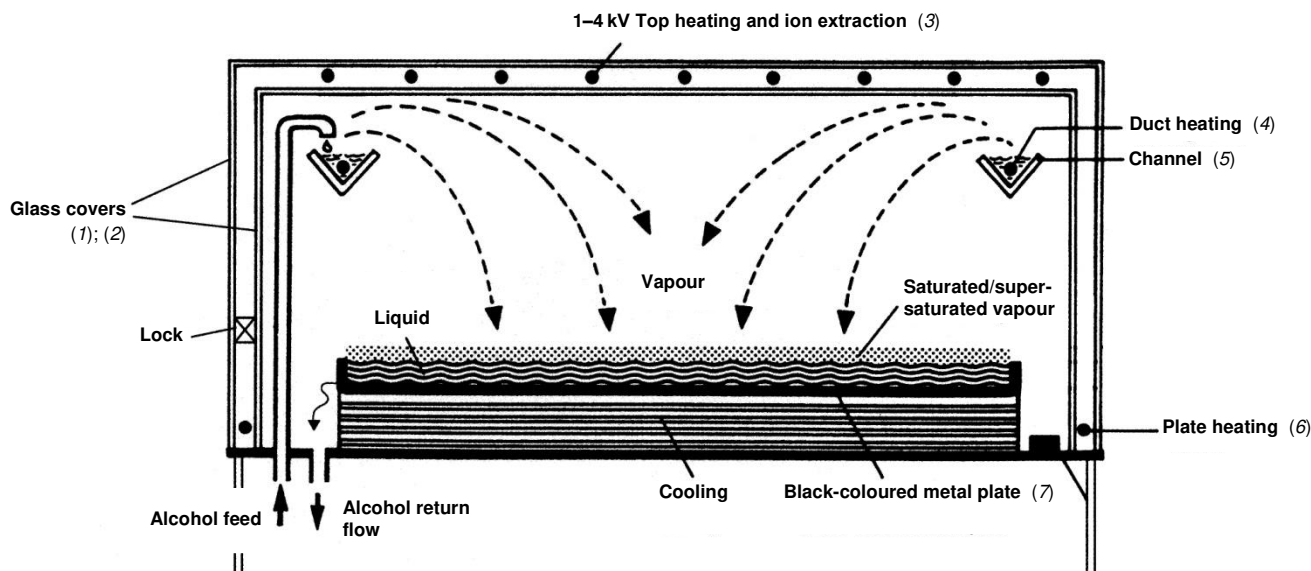

Fig. 2: Diffusion cloud chamber (cutaway view).
4. Open the alcohol dosing valve (58a) by about 2 turns. There is now a strong flow of alcohol through the filling tube into the alcohol channel (5, Fig. 2). When this channel is filled to about half way up, close the regulating valve so far that the flow from the filling tube into the channel is about 3–4 drops per second. Excess alcohol automatically flows off, so that the channel cannot overflow.
7. When the chamber is to be turned off, it is sufficient to switch it off at the key-operated switch, so that the top heating (3, Fig. 2) and the plate heating (6) remain switched on (max. 200 Watt). (*Caution:* When the chamber is turned off with the key-operated switch, the cover heating and the glass pane heating must remain switched on to avoid unwanted condensation of alcohol on the inner glass cover. Because of this, do not separate the chamber from the mains supply). Simply use the key-operated switch to put the system back into operation.
Cleaning the outer cover (1, Fig. 2):
Cleaning the inner cover (2, Fig. 2):